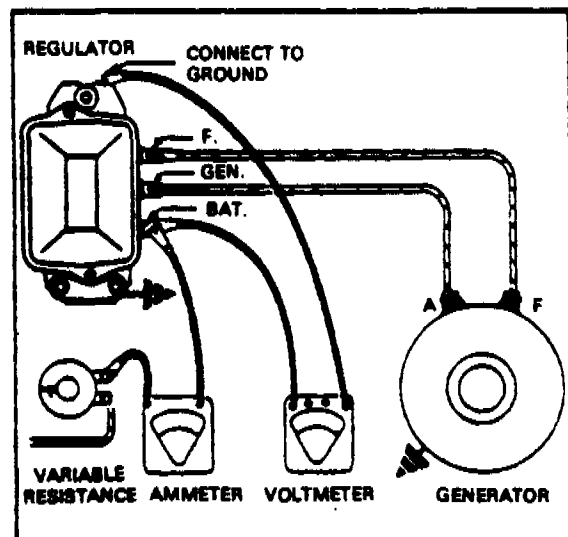

FIGURE 9-8. CHECKING VOLTAGE SETTING, VARIABLE RESISTANCE METHOD
a. Connect ammeter and $\frac{1}{4}$ ohm variable resistor in series with the battery as shown in Figure 9-8.